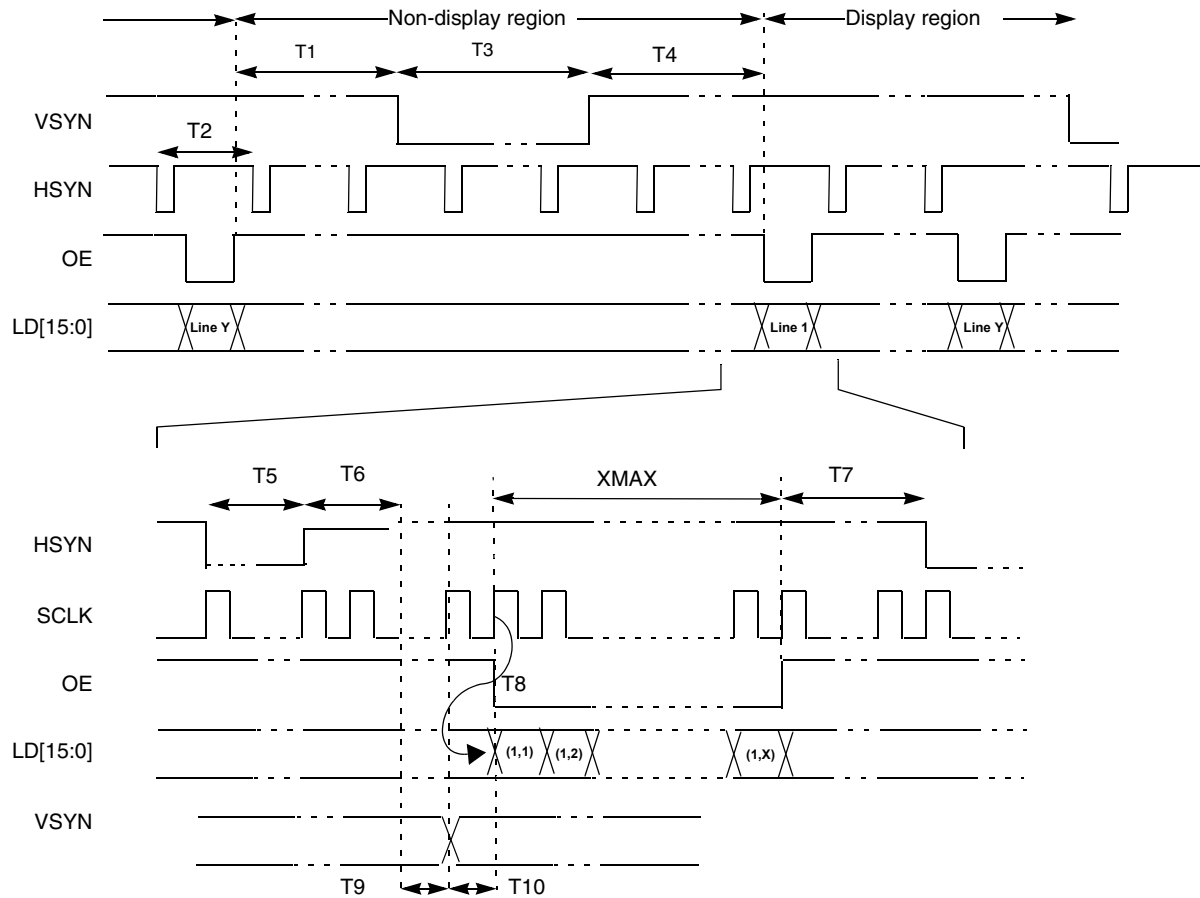

Figure 42. 4/8/16 Bit/Pixel TFT Color Mode Panel Timing
- VSYN, HSYN and OE can be programmed as active high or active low. In Figure 42, all 3 signals are active low.
- SCLK can be programmed to be deactivated during the VSYN pulse or the OE deasserted period. In Figure 42, SCLK is always active.